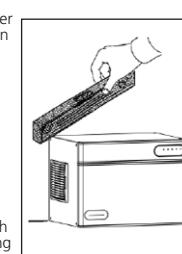

Fig. 6.
- d) Locate the icemaker and the storage bin in place, making sure that the two are perfectly level. Thus ensuring an even distribution of the water all over the evaporator and uniform filling of the cube plate (Fig.6). The storage bin is equipped with adjustable feet, which allow for easy levelling and sufficient height for cleaning under the machine.